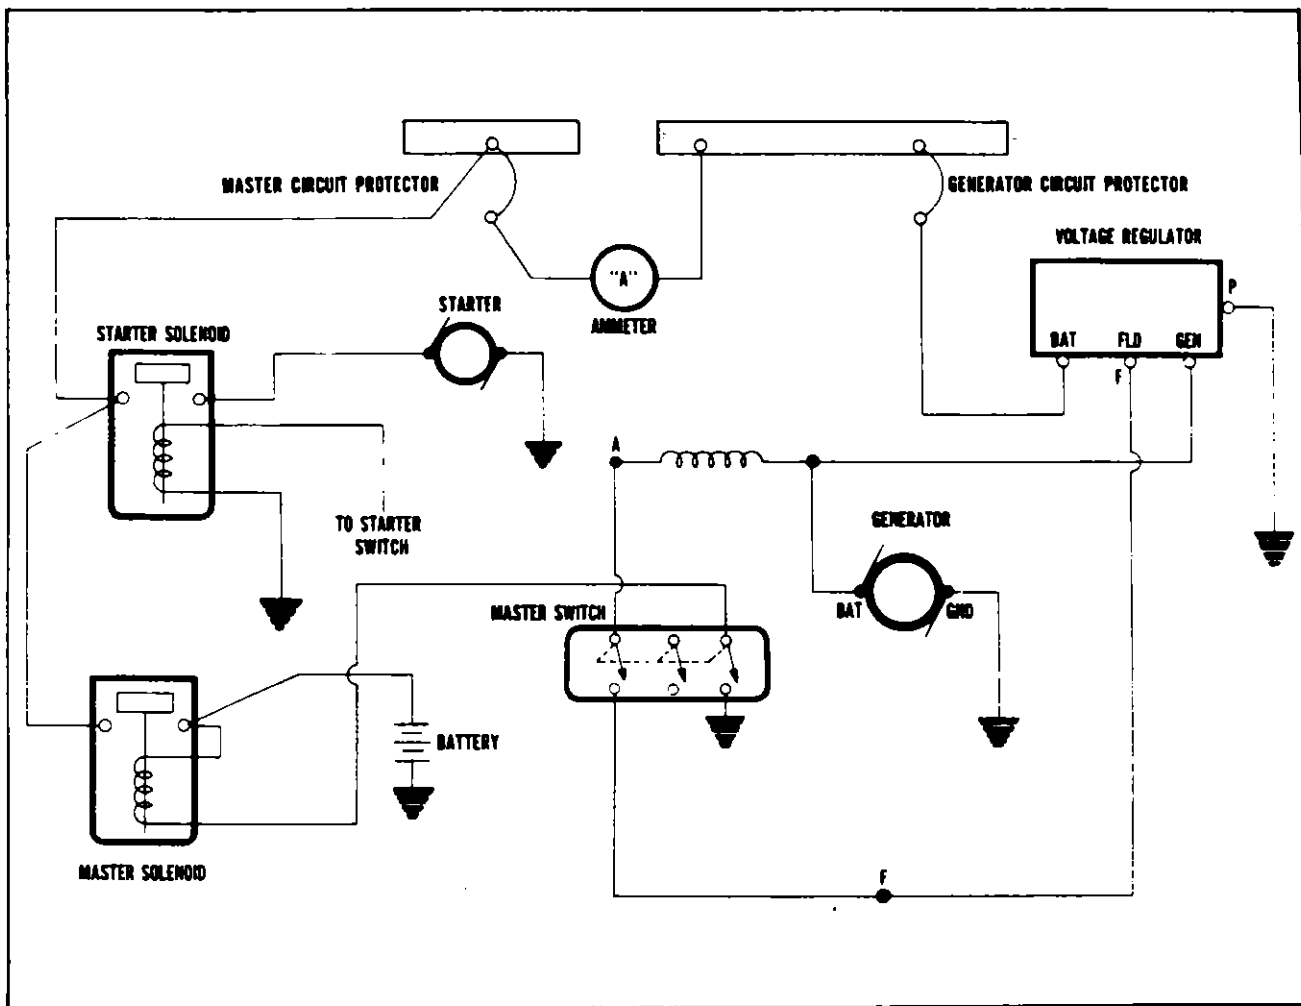

Figure 9-1. Generator and Starter Wiring System
**9-5. Checking Generator System.** In analyzing complaints of generator-regulator operation, any of several basic conditions may be found (Refer to Figure 9-1)